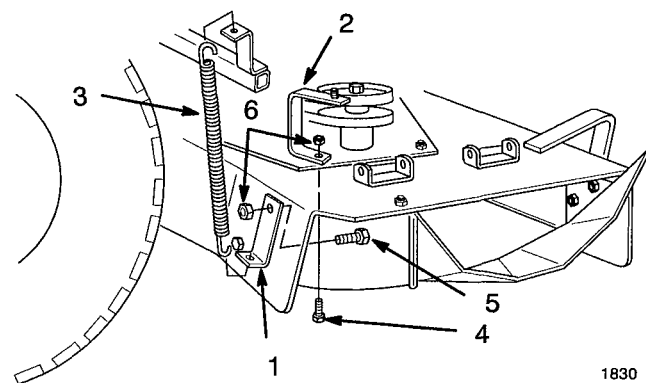

Figure 8
13. Remove and discard original hardware from deck to install belt cover support with 5/16-18 x 1 in. carriage bolt and lock nut (Fig. 8).
14. Raise mower to highest height-of-cut and install spring bracket on deck using 5/16-18 x 3/4 in. carriage bolt and lock nut (Fig. 8). Adjust spring bracket on deck so that spring is vertical. Tighten carriage bolt and lock nut.